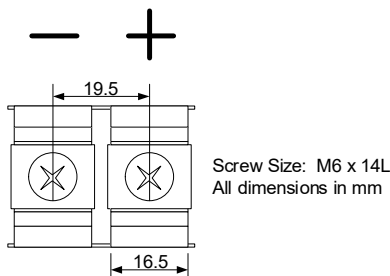

Figure 14 - DC Terminal Block Connections
- Connect the negative and positive cables to the DC terminal block as shown in Figure 14.